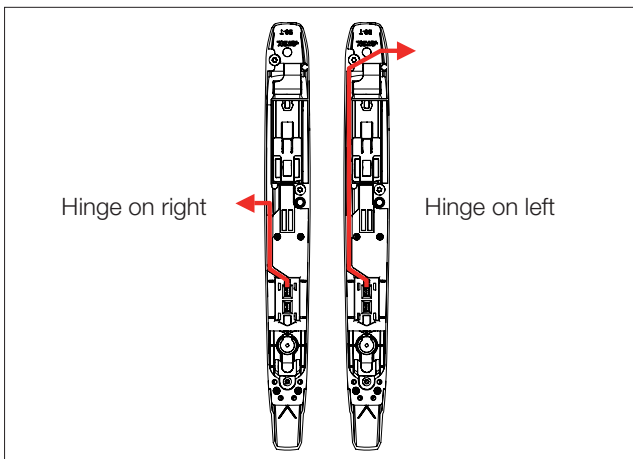

Fig. 6: Inserting the cable
- Pass the cable through the opening in the sheet steel door, depending on the position of the hinge (fig. 6).